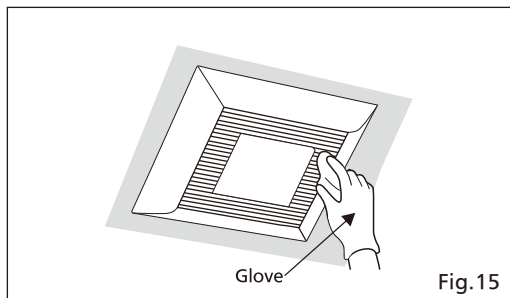

Fig.15
1. Clean grille. (Don't put into hot water. Use non-abrasive kitchen detergent, wipe dry with clean cloth) (Fig.15)